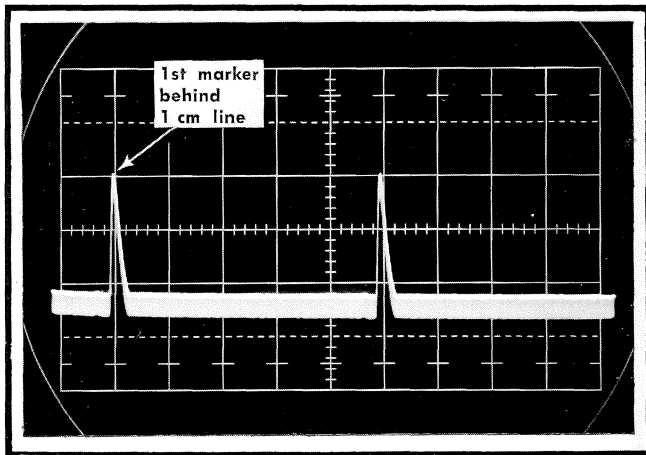

Fig. 7-23. Typical CRT display of time marks for adjusting Position Cal.
- d. Rotate the Type 1S2 POSITION control to position the first time mark to the 1 cm vertical graticule line. See Fig. 7-23.